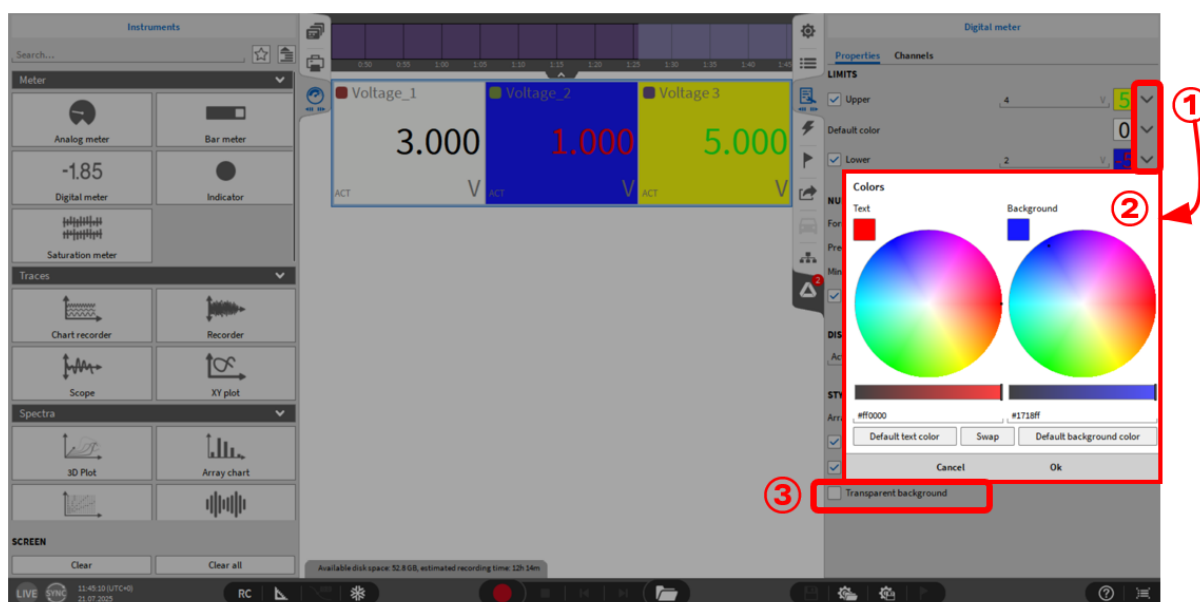

Fig. 8.9: Digital meter – Limits
- **Limits:** Allows users to color the Digital meters' text based on different limit values. This really helps in identifying signals which have hit a limit when the display is very "busy". This is illustrated in Fig. 8.9. It is possible to define colors for upper and lower limit as well as a default color between the upper and lower limit. First, it is necessary to define a value for the limits (except of the default setting). Afterwards it is possible to define a color for the text and the background by pressing the button ① shown in Fig. 8.9. When pressing one of the buttons in ① for the respective limit a new window appears (② in Fig. 8.9). Here it is possible to define the color for the text itself as well as the color for the background. With the buttons "Default text color" and "Default background color" it is possible to go back to the default settings, with the button "Swap" it is possible to switch the setting of the text and the background. By pressing the "Ok" button the settings will be stored for the selected digital meter.
For the background it is necessary to deactivate the "Transparent Background" option (③ in Fig. 8.9).